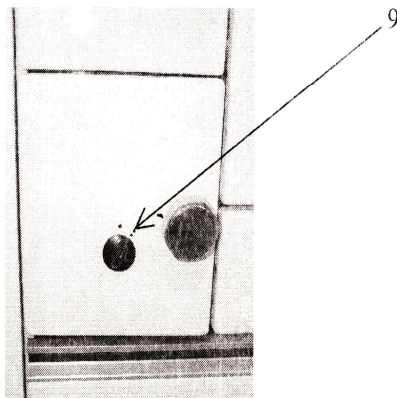

Figure 3
Primary air for combustion, and thereby heating capacity of cook-stove, is determined with primary combustion air. This air is regulated by primary air control located on the ash pan door (Figure 3, Item 9). Button on the ash pan door (Figure 3, Item 9) shows the direction of slide-door opening and closing. When the cook-stove is lighted, air control should be maximally opened (button to be placed in position no. 3).
- * Open primary air control so as to enable maximum primary air supply (Figure 3, Item 9).